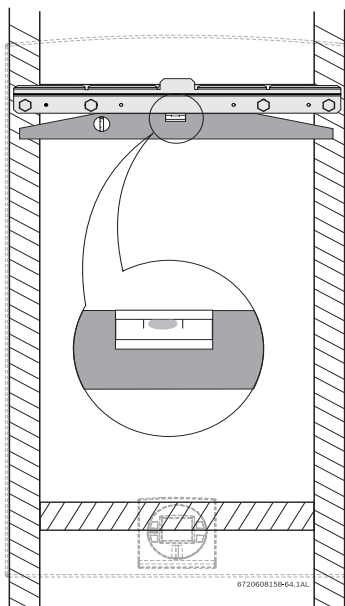

Fig. 9 Leveling the mounting bracket on the studs
- Secure the wall mounting bracket provided with the heater to the wall surface. The heater must be kept level on the wall surface, see Fig. 9, page 9.